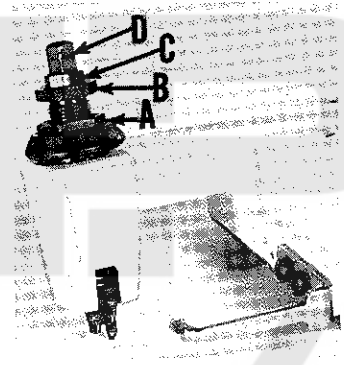

Fig. 2
Sufficient presser foot pressure to feed work uniformly should be maintained. Should it be necessary to increase or decrease amount of pressure on presser foot, loosen lock nut (A, Fig. 2) and turn adjusting screw (B). Adjusting screw has a right handthread so tightening increases pressure, loosening decreases pressure. When pressure adjusting screw (B) has been properly set, tighten lock nut (A). With presser foot resting on throat plate, position locking nut (C) so that its under surface is approximately  $1/32$  inch to  $1/16$  inch from the top surface of adjusting screw (B). Set cap (D) against locking nut (C).